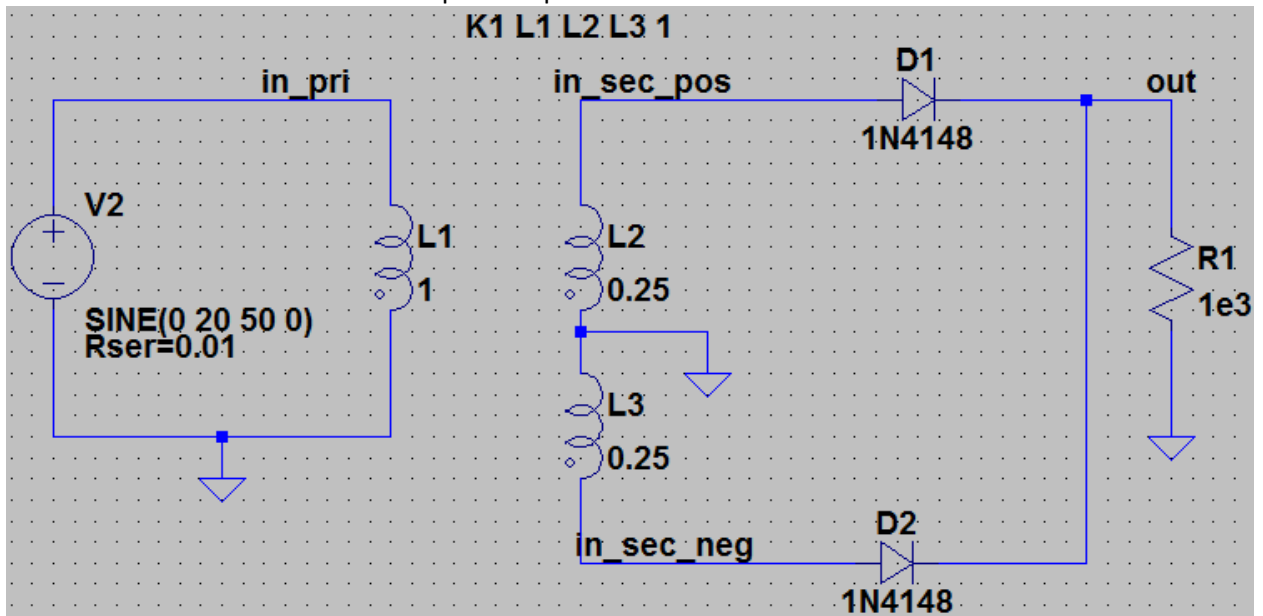

Figure 3
- a) Implement the circuit shown in figure 3 in LTSpice and observe the input and output voltage waveforms on CRO and Record their peak amplitudes.